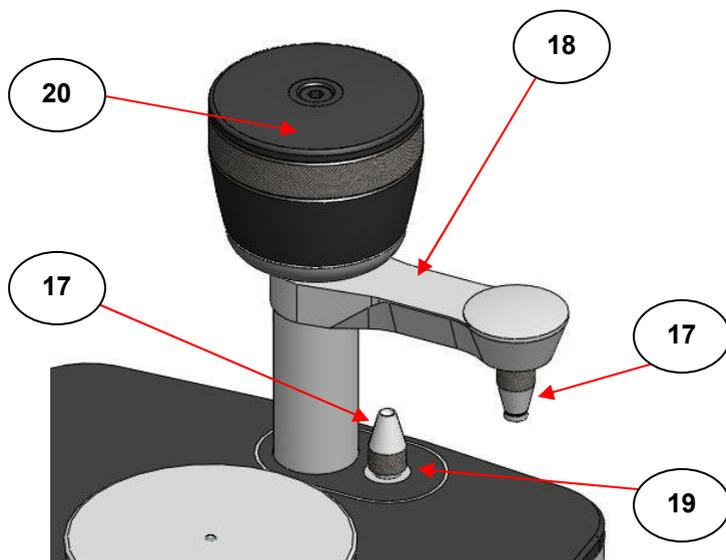

Fig 13. Anvil in Clamp Anvil Arm Assembly and in Storage Port
Either the flat or the pellet anvil (17) is fitted to the clamp anvil arm assembly (18) by the screw threading on the anvil. For storage of the anvil (17) that is not fitted to the clamp anvil arm, there is a threaded location port (19) by the clamp arm assembly support post. (See Fig 13. – the flat anvil is in the clamp anvil arm assembly and the pellet anvil is in the storage port.)
If the clamp arm assembly is not required for sampling it can be rotated to a “**parked**” position to either the left or right side of the central post. As seen in the example image for Fig 13, the clamp arm assembly (18) has been rotated to the right side of the optical unit and is positioned above the screw threaded port (19) for storage of an anvil (17).
The Quest ATR clamp arm assembly (18) is provided with a special built in torque limiter screw knob assembly (20). (See Figs 13. and 14.) For solid sampling, an appropriate anvil (17) is fitted in position. A solid sample is placed upon the diamond, ZnSe or Ge ATR crystal of the crystal puck assembly being used and the clamp arm assembly is positioned towards the front of the optical unit with the anvil (17) pressing surface at a suitably clear distance from and over the sample, in readiness for turning the torque limiter screw knob (20) to bring the anvil (17) down and into contact with the sample.